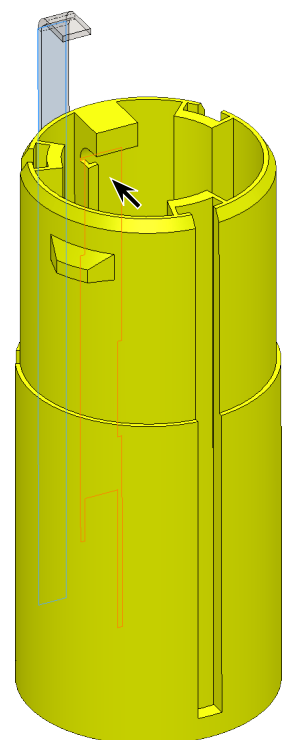

Fig. 6
Step 7. Rotate view to view **inside face of engine hook housing in Can**, hold down middle mouse button (wheel) and drag to rotate view, **Fig. 6**.
Step 8. Click **inside face of engine hook housing in Can**, **Fig. 6**.